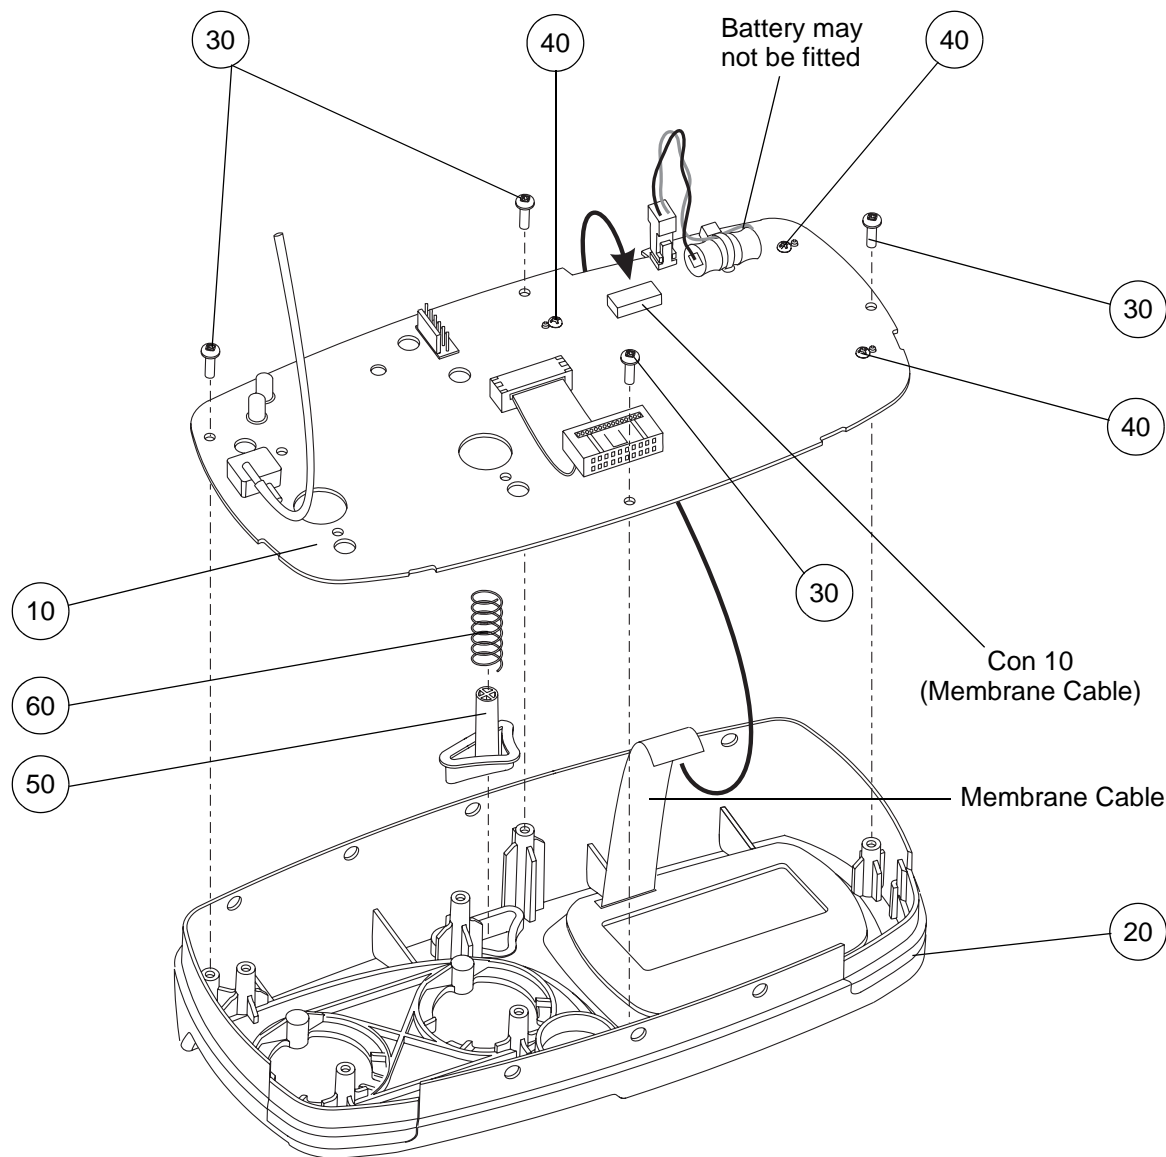

Figure 48 - Replacing the Control PCB and Run Button
- 24.3 Carefully pull the membrane cable out of the membrane connector on the control PCB assembly (Fig 48, PCB Con 10).
- 24.4 Remove the four screws (Fig 48, Item 30), and lift the control PCB assembly (Fig 48, Item 10) out of the top case assembly (Fig 48, Item 20).
Note: *Do not remove the four smaller screws (Fig 48, Item 40) which secure the LCD display to the control PCB assembly.*
- 25.1 Put the top case assembly (Fig 48, Item 20) on a horizontal surface, with the inside surface pointing upwards, and position the control PCB assembly (Fig 48, Item 10) just above it.
- 25.2 Carefully push the membrane cable into the membrane connector on the control PCB assembly (Fig 48, PCB Con 10).
- 25.3 Make sure the **Run** button (Fig 48, Item 50) is installed into the cutout in the top case assembly, and the button return spring (Fig 48, Item 60) is installed on the **Run** button.
- 25.5 Install the four screws (Fig 48, Item 30) to secure the control PCB assembly.